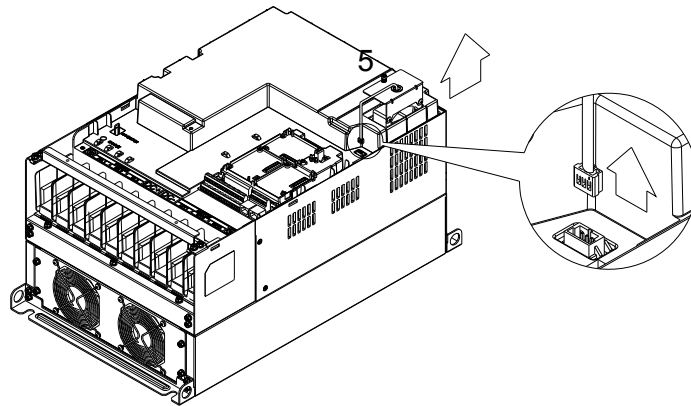

Figure 3
- Loosen screw 5 (figure 3) and disconnect fan power and pull out the fan. (As shown in the enlarged picture 3) Screw 5 『Torque :10~12kgf-cm (8.6~10.4lb-in)』